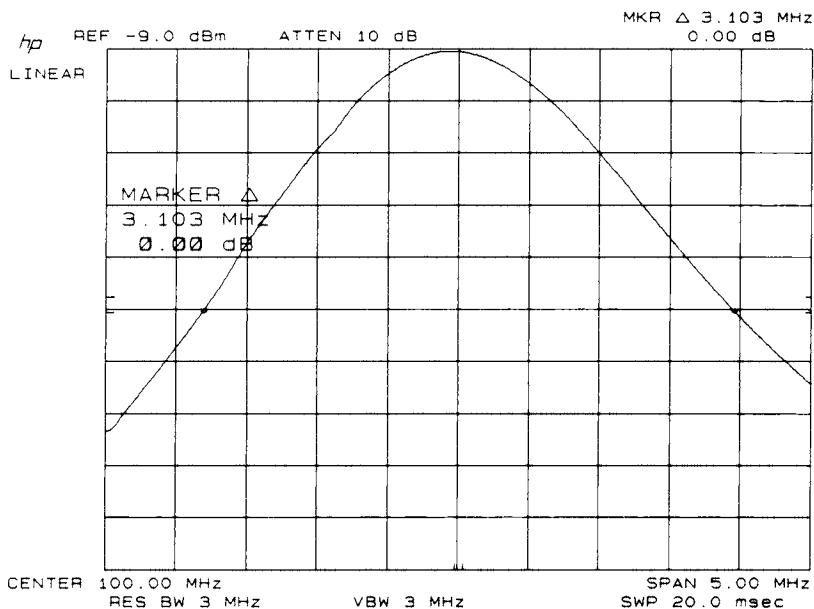

Figure 4-1. Resolution Bandwidth Measurement
7. Press MARKER **Δ** and position movable marker 6 dB down from the signal peak on the negative-going edge of the trace (the MARKER Δ amplitude readout should be $.00\text{ dB} \pm 0.05\text{ dB}$). The 6 dB bandwidth is given by the MARKER Δ frequency readout. (See Figure 4-1.) Record this value in Table 4-1.